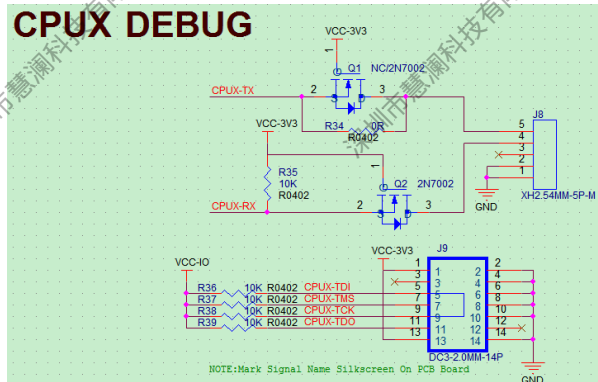

Figure 2-46 CPUX Debugging Interface
- The JTAG debugging interface and UART interface of CPUX can come out from the PB and PF ports of the SoC respectively. At least one of the interfaces must be reserved for both development debugging and the analysis of the mass production problem. For the products with TF card function, suggest that the PB port also reserves test points as much as possible to increase problem analysis and debugging channels, the mass production does not need to mount components. The UART interface is suggested that add an anti-leakage circuit to avoid leakage between the prototype and the computer during the long-term aging test, which may cause the machine to work abnormally or the computer to hang up. As shown in Figure 2-46.